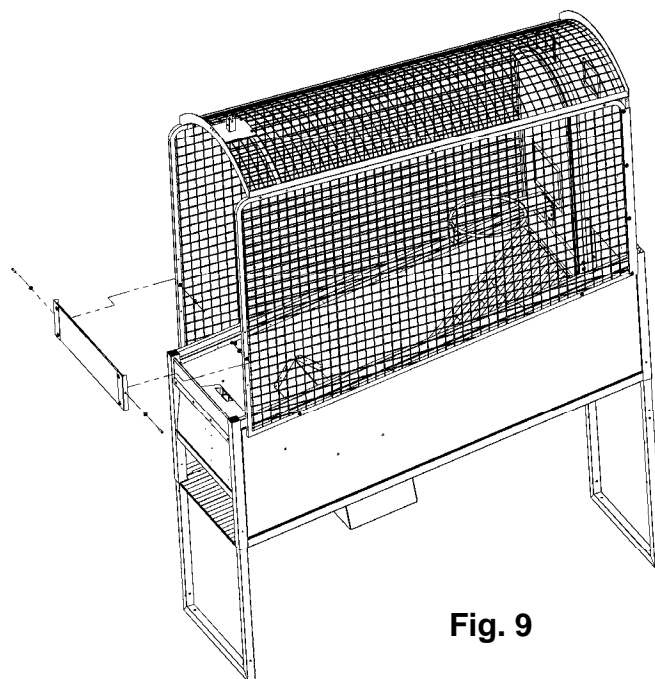

Fig. 9
Install the rebound guard to the front of the game using (2) 1/4-20 X 1 1/2" black Button Head Cap Screws, (4) 1/4 flat black washers and (2) 1/4-20 Nylock nuts. (See Fig. 9)